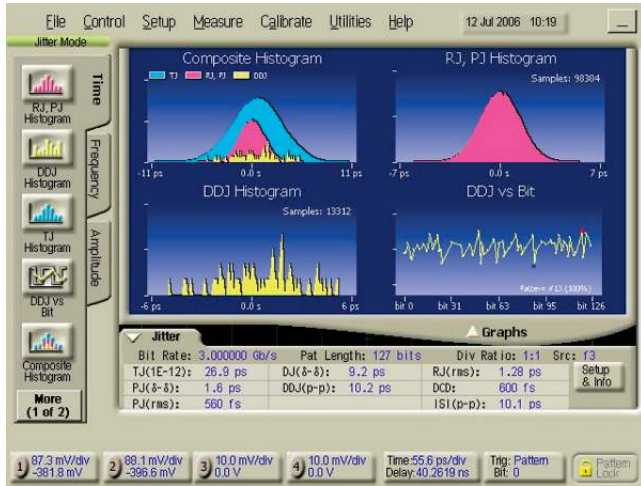

Figure 9. Inter-Symbol Interference
- 1 Press the Jitter button. The 86100C DCA-J will determine the data rate and clock rate and the jitter shade will drop displaying jitter graphs and the jitter data table. See Figure 9.
2 From the table record the value for ISI. See Figure 9.